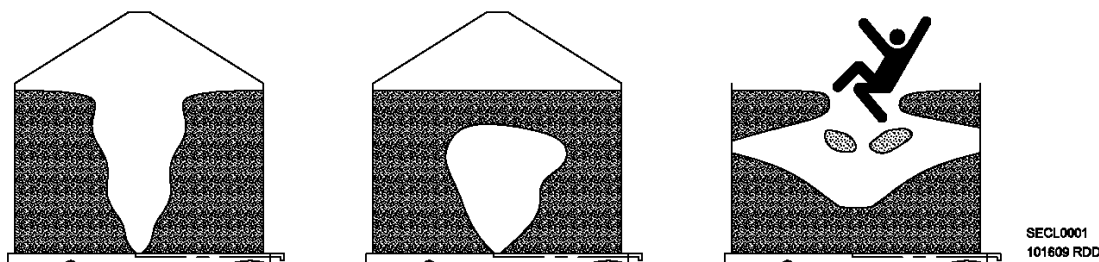

Fig. 1 – Obstructed-flow, bridged grain, collapsed bridge of grain in bin
**IMPORTANT** – A bucket elevator is generally used to move grain for storage in grain bins. Be aware of dangers inherent in grain bins. Do not enter a bin if grain has stopped flowing normally or has bridged, as shown in Fig. 1. Grain can collapse without warning and trap, bury and cause suffocation.